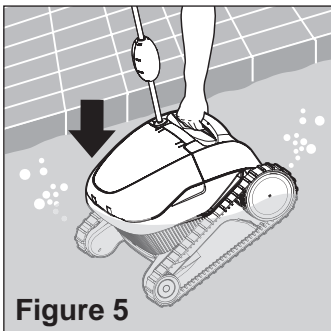

Figure 5
2. Lower the Prowler® 910 or Warrior® SL Robotic Pool Cleaner into the pool by the handle (see **Figure 5**).